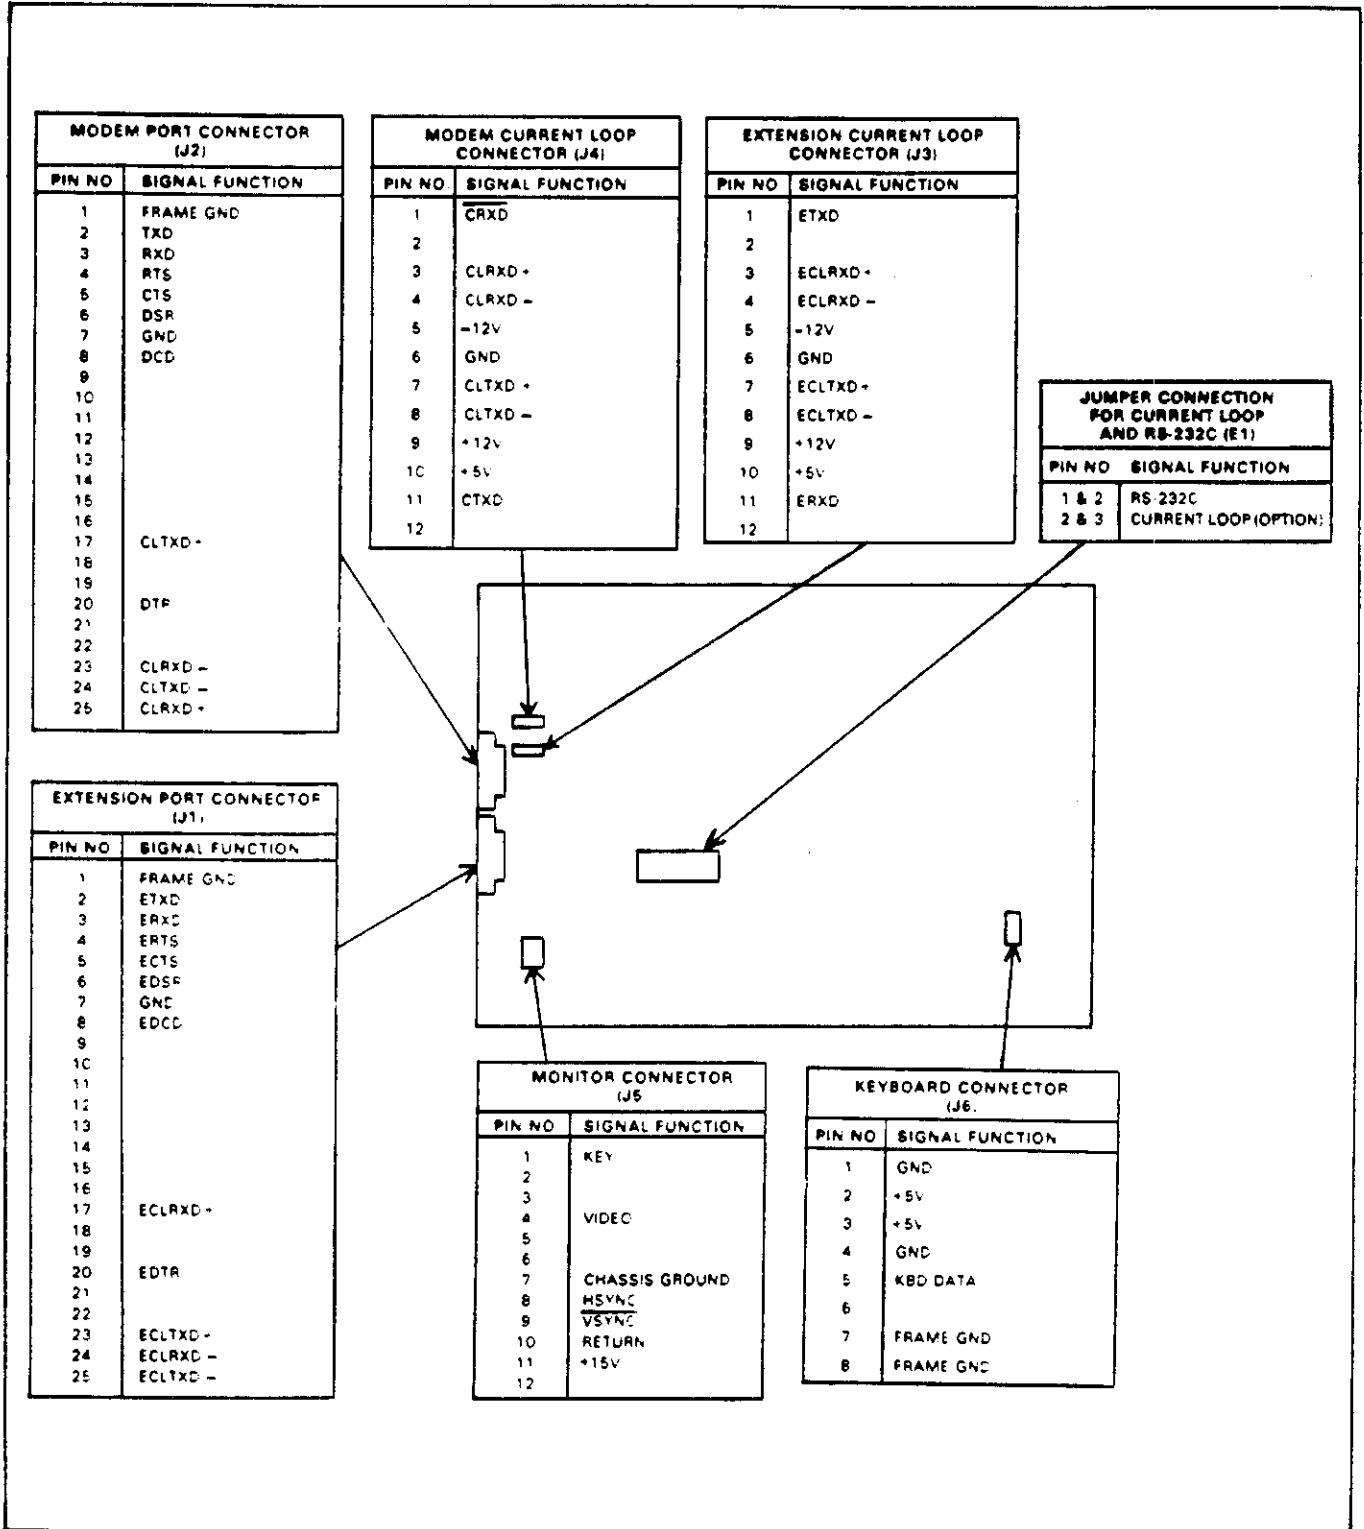
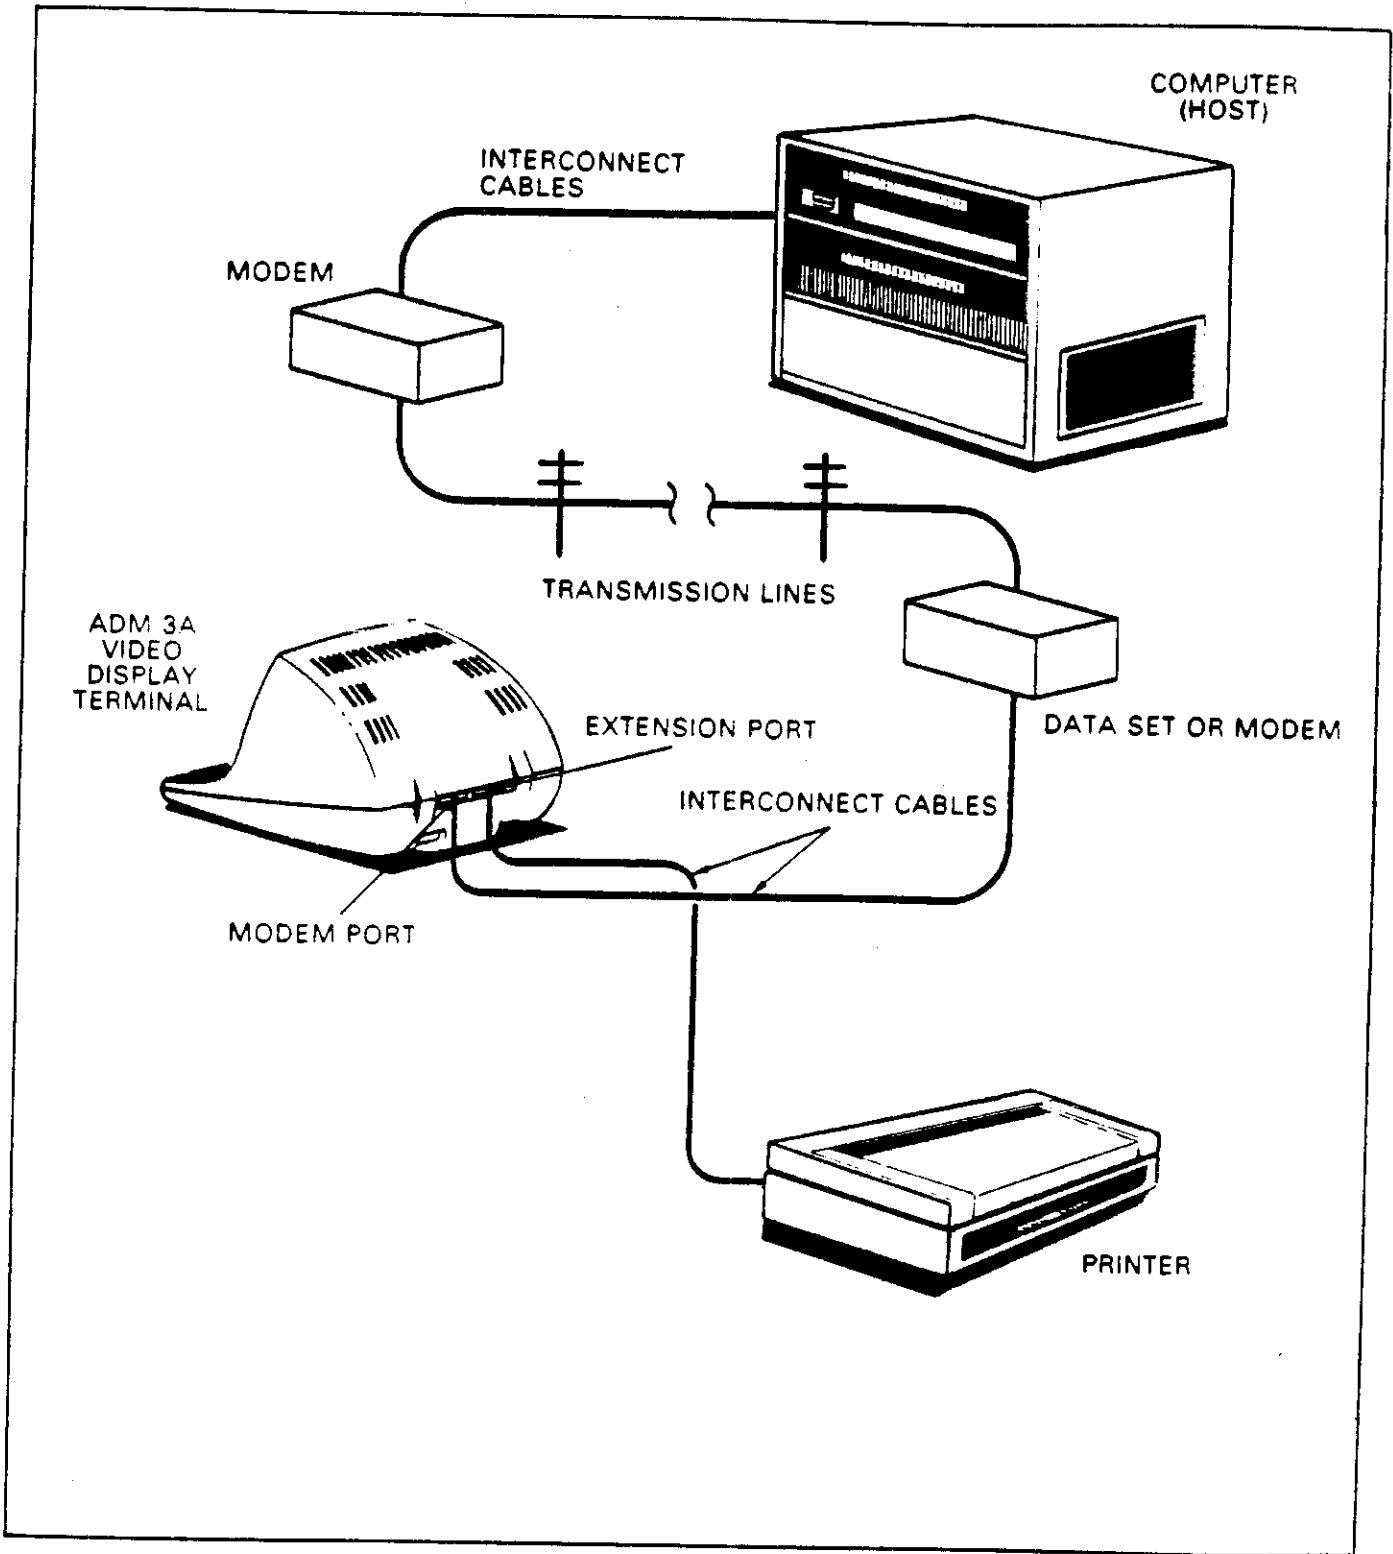
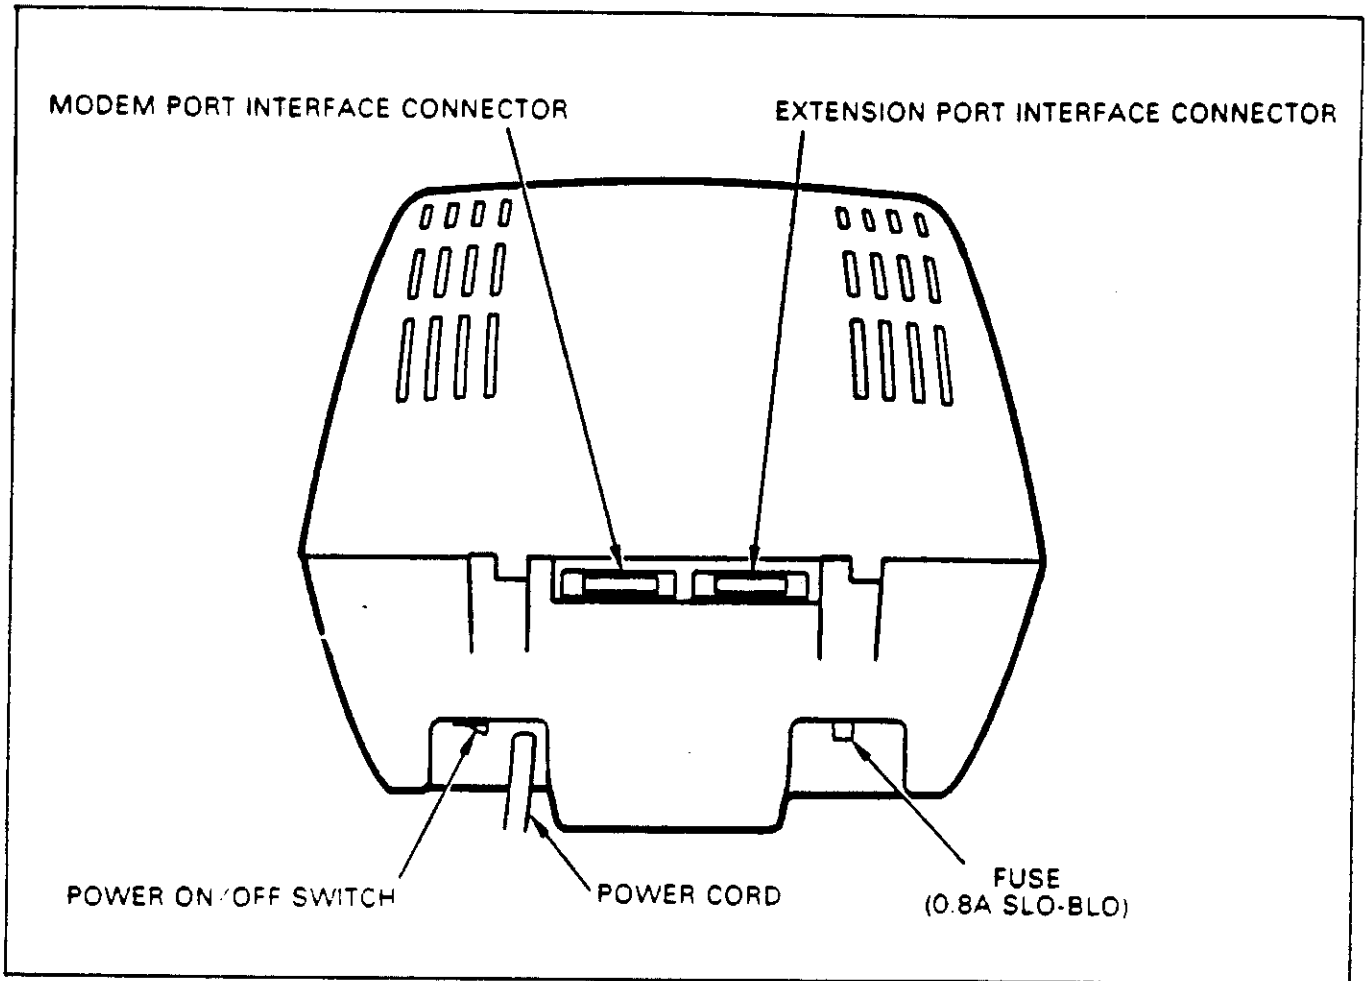

Figure 2-2. ADM 3A Connector Locations
Figure 2-3. Typical ADM 3A Application
Figure 2-6. ADM 3A Rear Panel Controls
The ADM 3A may be connected directly to a local computer, or connected via telephone data lines to a remote computer. Remote computer connections usually require the use of a modem or data set. Figure 2-2, page 2-4 shows the connector/pin assignments for the modem and extension ports. Figure 2-3, page 2-5 shows a typical ADM 3A application. The ADM 3A's modem and extension port connectors are shown in Figure 2-6, page 2-8.
1. Check the power ON/OFF switch on the back of the terminal to be sure it is off (Figure 2-6, page 2-8).
2. Connect the data interface cable(s) using the appropriate interface information in Figure 2-2, page 2-4, Figure 2-3, page 2-5 and Subsection 2.6.
1. Set the power ON/OFF switch (Figure 2-6, above) to the ON position.